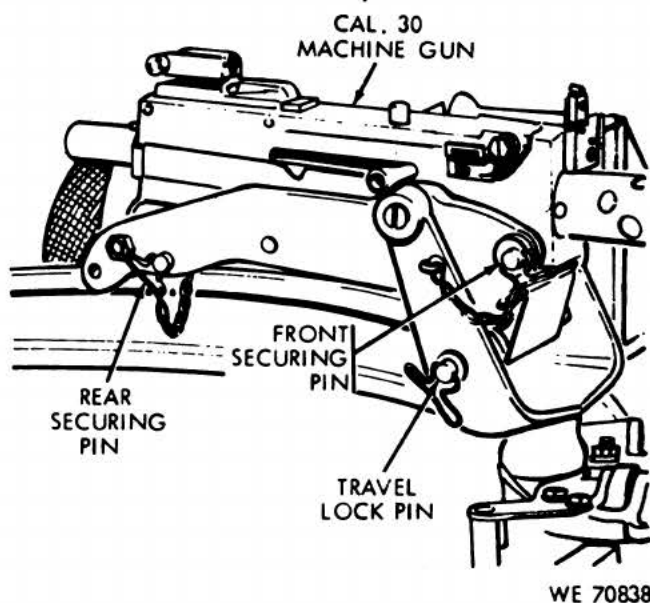

Figure 2-1. Controls for machine gun mount mounting a caliber .30 machine gun.
a. Machine gun mount controls (figs. 2-1 through 2-3) are the items of the mounts necessary for the operator to install and secure a machine gun to the mount. Additional controls are such items as travel lock pins which are installed through the pintle and the cradle to hold the machine gun and mount in a horizontal position. The travel lock pin must be removed before the operator can elevate or depress the machine gun.